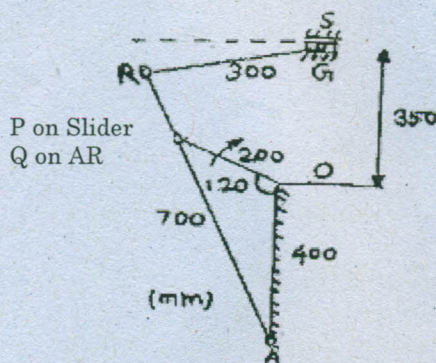

Fig. 12 (a)
- (b) A Hooke's joint connects two shafts whose axes intersect at 18° . The driving shaft rotates at a uniform speed of 210 rpm. The driven shaft with attached masses has a mass of 60 kg and the radius of gyration of 120 mm. Determine the torque required at the driving shaft if a steady torque of 180 Nm resists rotation of the driven shaft and the angle of rotation is 45° and angle between the shafts at which the total fluctuation of speed of the driven shaft is limited to 18 rpm. (16)
12. (a) Fig.12 (a) shows the link mechanism of a quick-return mechanism of the slotted lever type, the various dimensions of which are $OA = 400$ mm, $AR = 700$ mm, $RS = 300$ mm. For the configuration shown, determine the acceleration of the cutting tool at S and the angular acceleration of the link RS. The crank OP rotates at 210 rpm. (16)